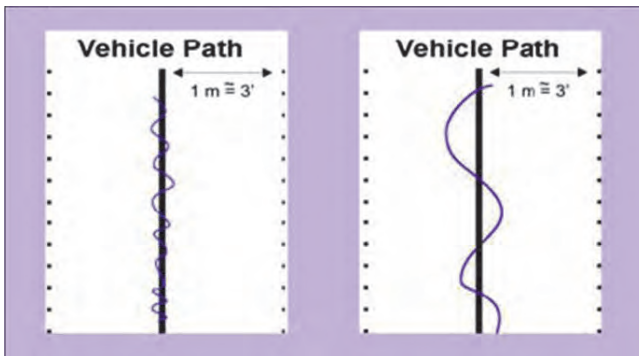

Figure 3-1: eDriveX control at different sensitivity settings
- If the machine slowly weaves down the guideline, the sensitivity setting is too low. See Figure 3-1.